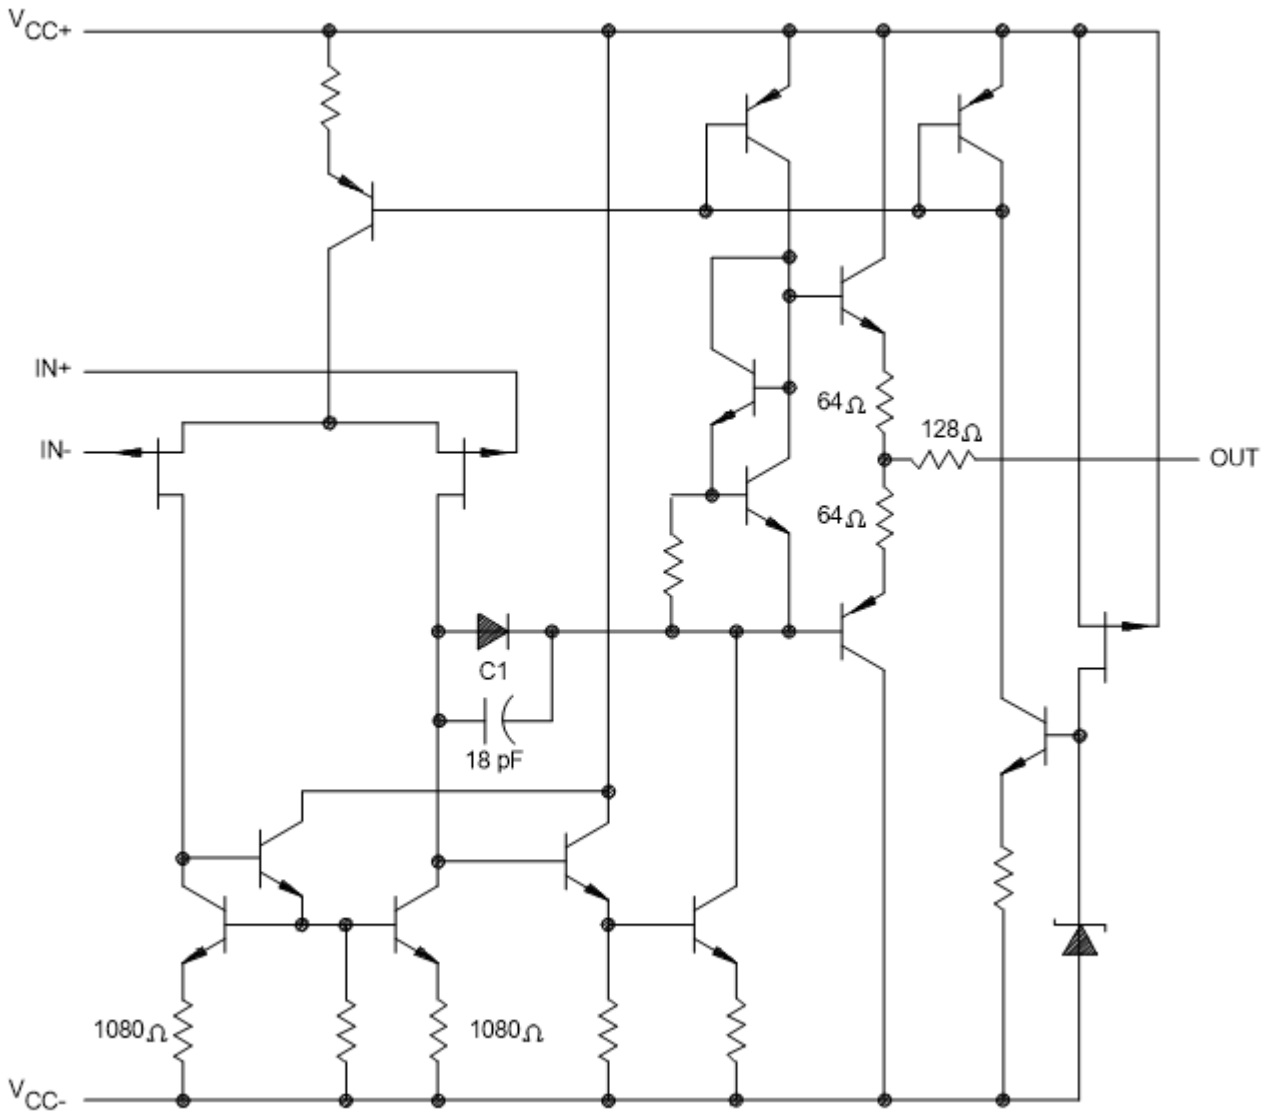

FIGURE 4. Schematic diagram.
3.5.4 Schematic diagram. The schematic diagram shall be as shown in figure 4.